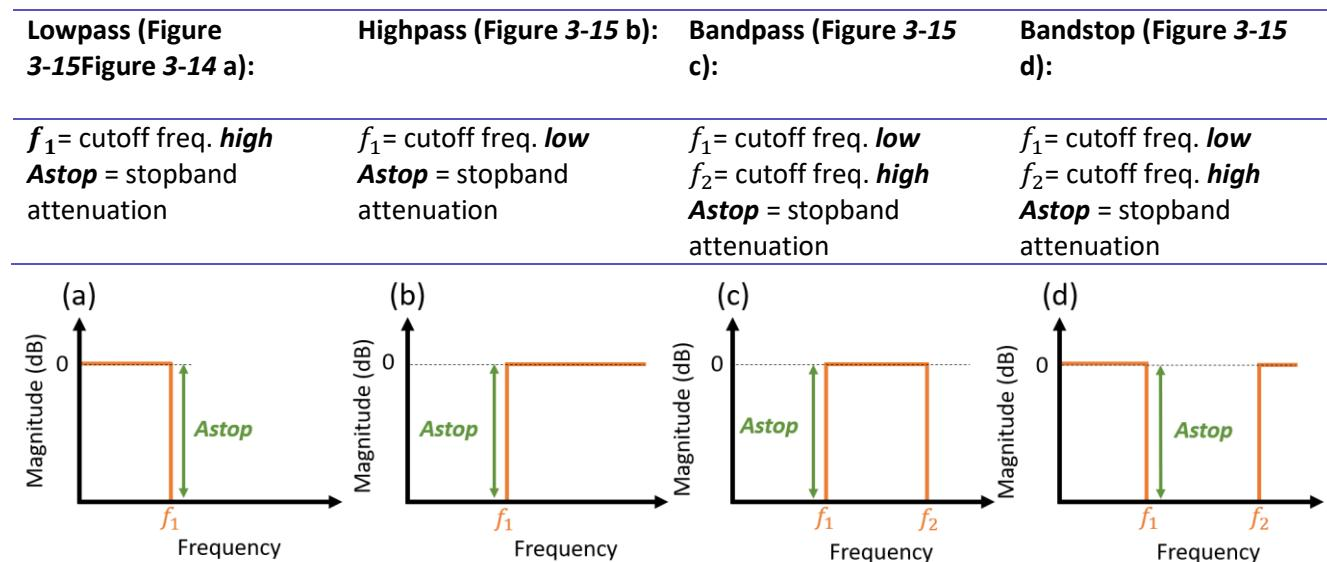

Figure 3-15: IIR Chebyshev Type II. **a)** lowpass, **b)** highpass, **c)** bandpass, and **d)** bandstop.
- Chebyshev Type II (Table 3-7 and Figure 3-15): (`fdesign` function in MATLAB).